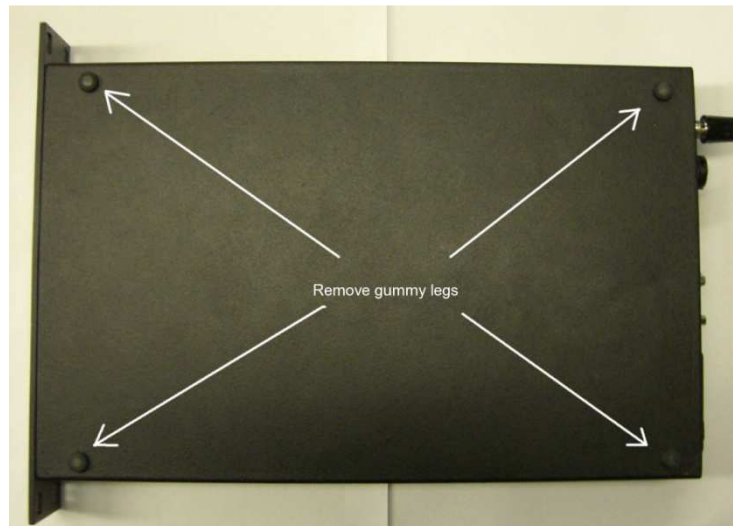

Fig. 3-1 Unstuck gummy legs from the device
2. Turn the MG14 upside down as shown in Fig. 3-1,